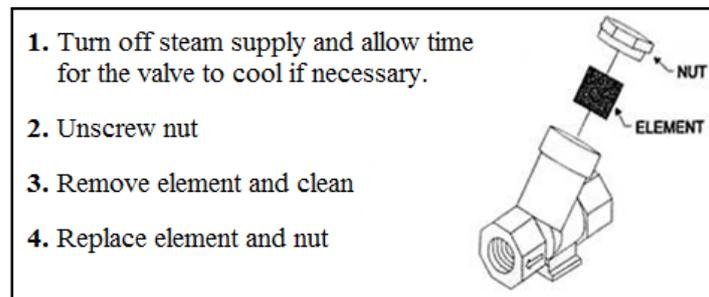

Fig. 5-3 Stream Trap Service
4. Clean steam filter, where applicable. See Figure 5-3